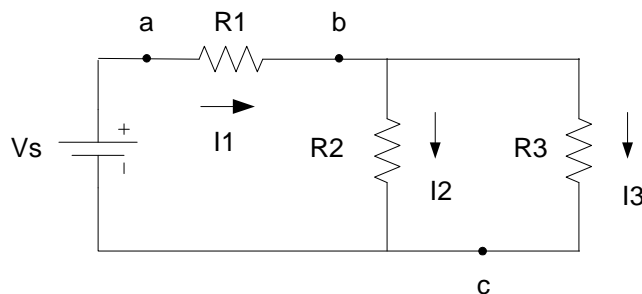

Figure 3.7: Series-Parallel circuit.
3. Construct on the protoboard the series-parallel circuit shown in Figure 3.7 using a source voltage of $V_s=10V$ and the following resistors:
Table 3.7: Agilent U1242B Error of the Series-Parallel Circuit of Figure 3.7
Table 3.8: Simpson 260-8 Error of the Series-Parallel Circuit of Figure 3.7
- Calculate the theoretical currents I_1 , I_2 , and I_3 that should flow in the series-parallel circuit of Figure 3.7.